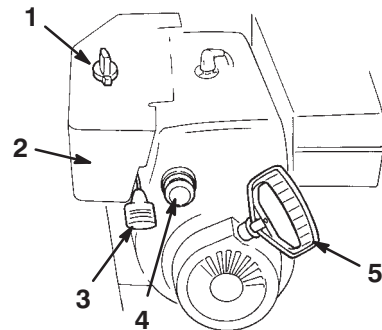

Figure 14
- **Choke** (Fig. 14)—Move the choke to the $\left| \text{Full} \right|$ position to start a cold engine. As engine warms up, gradually move the choke to the *Off* position.
- **Ignition Switch** (Fig. 14)—Insert the key before starting the engine. To stop the engine, remove the key.
- **Throttle** (Fig. 14)—Move the throttle upward to increase the engine speed; move it downward to decrease the engine speed. Move the throttle to the *Stop* position to stop the engine.
- **Primer** (Fig. 14)—Press the primer to pump a small amount of gasoline into the engine for improved cold-weather starting.
- **Recoil Starter** (Fig. 14)—The recoil starter is on the back side of the engine. Pull the recoil starter to start the engine.
2. Remove the key from the ignition switch (Fig. 14).
3. Pull the choke knob off (Fig. 14).
2. Move the throttle to the *Fast* position (Fig. 14).
5. Rotate the choke (Fig. 14) to the *On* position.
6. Insert the ignition key (Fig. 14).
7. Cover the hole in the center of the primer (Fig. 14) with your thumb and slowly push in the primer three times, pausing a moment between pushes.
8. Grasp the recoil starter handle (Fig. 14) and pull it out slowly until positive engagement results; then pull the handle vigorously to start the engine.
10. After the engine starts, immediately rotate the choke (Fig. 14) to the 3/4 position. As the engine warms up, rotate the choke to the 1/2 position. When the engine warms up sufficiently, rotate the choke to the *Off* position.